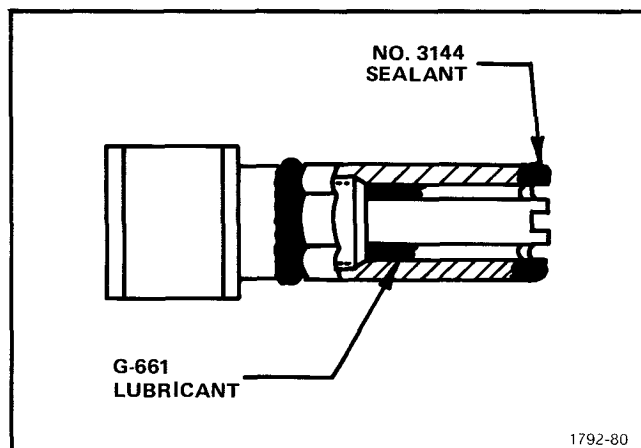

Fig. 5-27. Detail showing lubrication and sealing for the variable resistor.
3. Pack the Shaft/Threaded Bushing interface with G-661 lubricant as shown in Fig. 5-27.
4. Form a bead of No. 3144 sealant on the end of the Hex spacer nut as shown in Fig. 5-27.